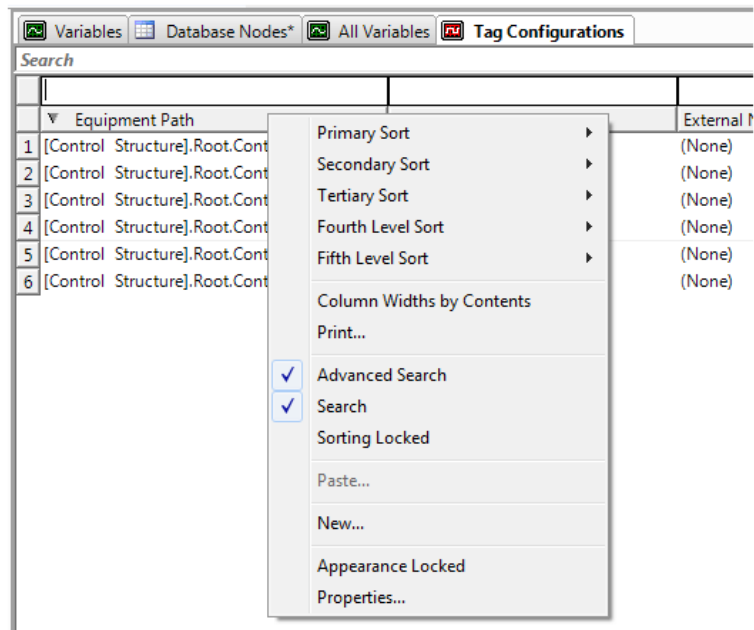

Figure 3. Tags List - context menu
3. Right-click the tabs in the **Tag** window to view the context menu as shown in Figure 3.